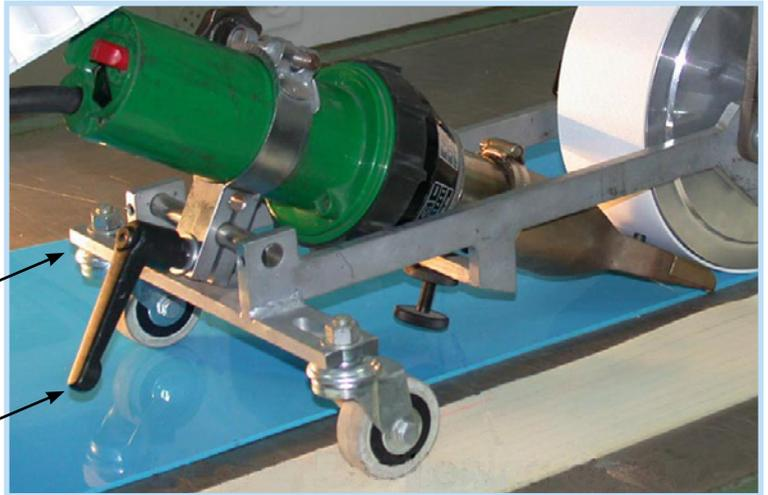

Fig. 5
3. Align the parts of the sidewall Trolley (Leister, pressure roller and snub roller). Check the levelness of the Trolley by placing the Trolley on a flat, level surface. The two rear wheels of the Trolley can be adjusted (Fig. 5) to ensure that the pressure roller is pressing evenly on the belt. Adjust the height of the Leister nozzle using the adjusting screw. (Fig. 5).